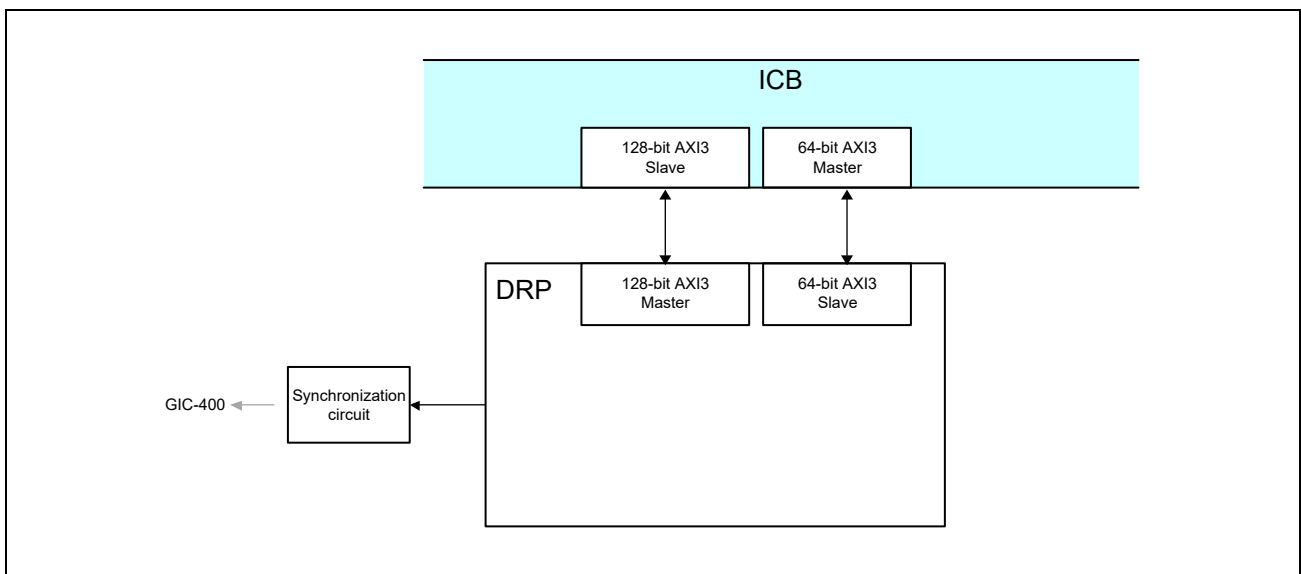

Figure 21.1-1 Schematic of DRP Connection
**Figure 21.1-1** shows the connection diagram of the DRP.